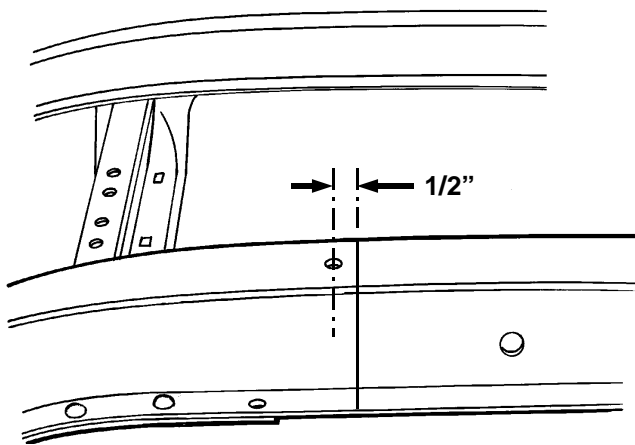

Figure 3
5. Using the rubber snubber holes from the previous step, make a line mark on the frame 1/2" back. Scribe those line marks around the frame rails. Those scribed lines represent the centerline for the new crossmember, which is the axle centerline. See Figure 3.